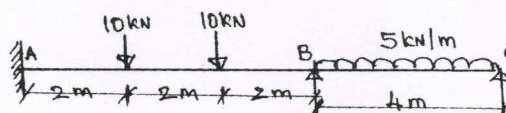

Fig.Q4(c)
- c. Analyse the continuous beam shown in Fig.Q4(c). Calculate the maximum plastic moment. Take load factor as 1.50 (12 Marks)